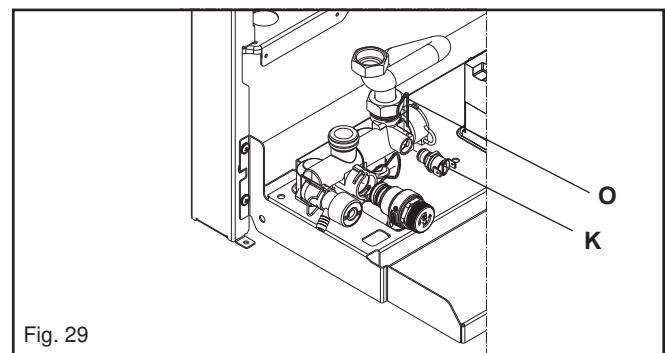

Fig. 29
6.8 WATER PRESSURE SWITCH (fig. 29)